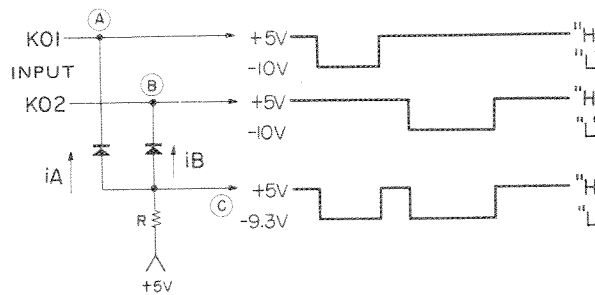

Fig. 1
Repeat operations are controlled chiefly by diodes. With reference to Fig. 1, when the potential at Point (A), or Point (B) drops, it will cause current to flow from Point (C) to Point (A), or to Point (B), so that the potential at Point (C) will drop. In this case, the voltage at Point (C) will be higher than that of Point (A) and Point (B), by a degree equivalent to the diode's forward voltage.